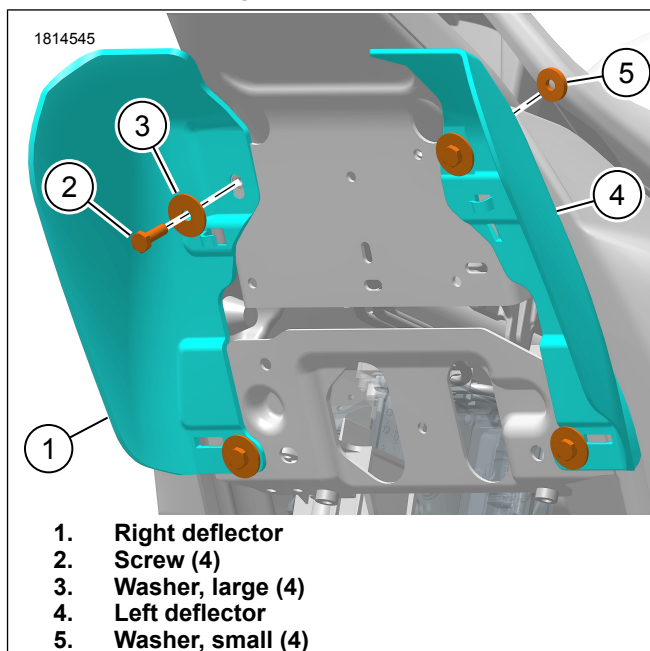

Figure 3. Deflector
2. Figure 3 Install right deflector (1).
- a. **Kit 57200418:** Install small washers (5) between deflector and frame.
- b. **Kits 57200417 and 57200418:** Install large washers (3) and screws (2). Tighten.